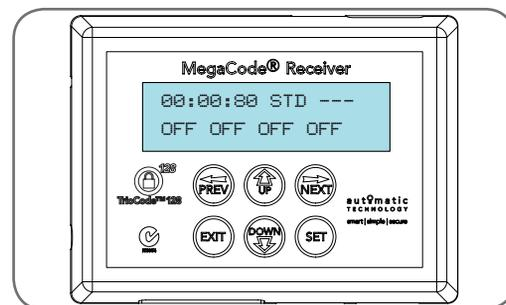

Fig 3.2
- After a short delay the main screen will be displayed. This will show the current time and day of the week on the top line (Refer to section 6.2 to set the current date and time). The bottom line will show the output status starting with Output 1 on the left through to Output 4 on the right (**Fig. 3.2**).